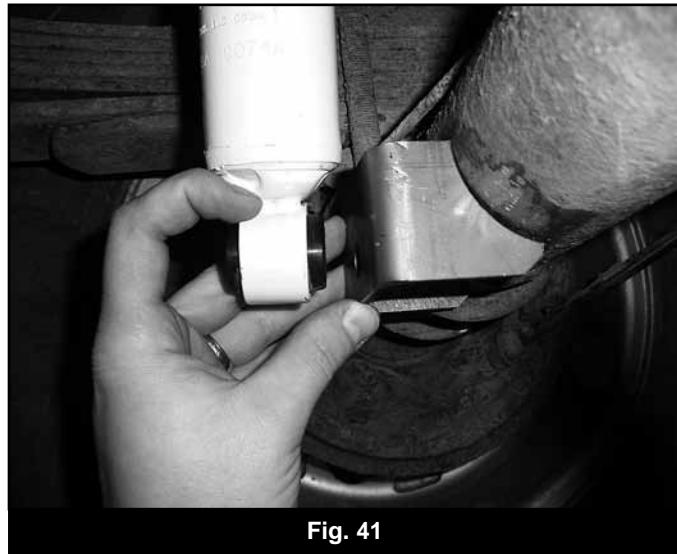

Fig. 41
29. Position the new shock mounts so the flat shock mount surface is parallel to the centerline of the shock (Fig 41). This will ensure that the shock bushing will run square in the shock eye at ride height. Tack the brackets into position.